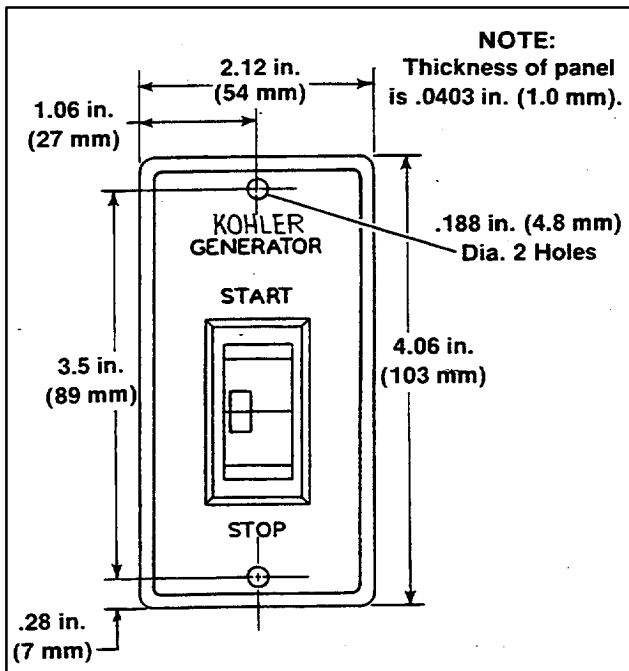

Figure 2. Mounting Dimensions
2. See Figure 2 for mounting dimensions. The minimum mounting clearance beyond the panel is 2-1/4 in. (57 mm). Mount panel using two screws (not supplied).